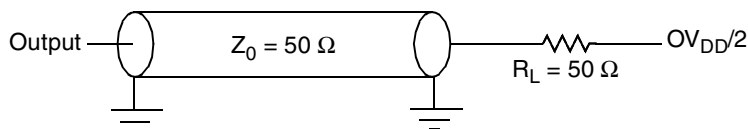

Figure 14. Local Bus C Test Load
Figure 14 provides the AC test load for the local bus.
1. All outputs are measured from the midpoint voltage of the falling/rising edge of t_{TCLK} to the midpoint of the signal in question. The output timings are measured at the pins. All output timings assume a purely resistive 50-Ω load (see Figure 14). Time-of-flight delays must be added for trace lengths, vias, and connectors in the system.
2. The symbols used for timing specifications follow the pattern of $t_{(first\ two\ letters\ of\ functional\ block)(signal)(state)(reference)(state)}$ for inputs and $t_{(first\ two\ letters\ of\ functional\ block)(reference)(state)(signal)(state)}$ for outputs. For example, $t_{JTDVKKH}$ symbolizes JTAG device timing (JT) with respect to the time data input signals (D) reaching the valid state (V) relative to the t_{JTG} clock reference (K) going to the high (H) state or setup time. Also, t_{JTDXKH} symbolizes JTAG timing (JT) with respect to the time data input signals (D) went invalid (X) relative to the t_{JTG} clock reference (K) going to the high (H) state. Note that, in general, the clock reference symbol representation is based on three letters representing the clock of a particular functional. For rise and fall times, the latter convention is used with the appropriate letter: R (rise) or F (fall).